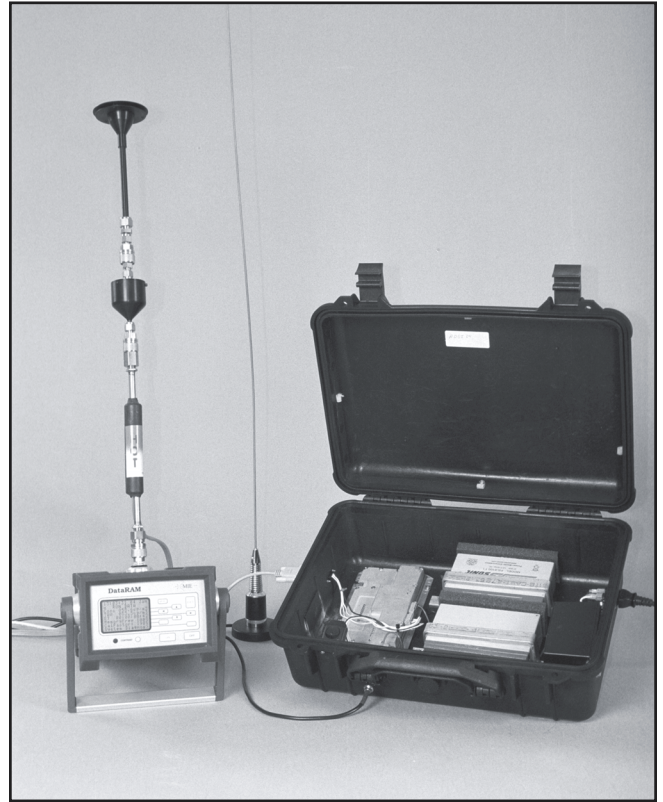

Figure 6—DataRAM connected to the telemetry unit.
- Open the remote satellite telemetry briefcase (figure 6) and remove the pouch containing the required cables.